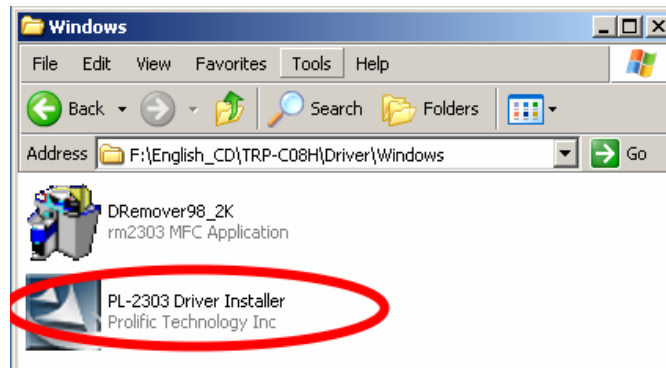

Fig. 1
2. Put the driver CD in the CD-ROM then run the PL-2303 driver (See *Fig.1* and 2)